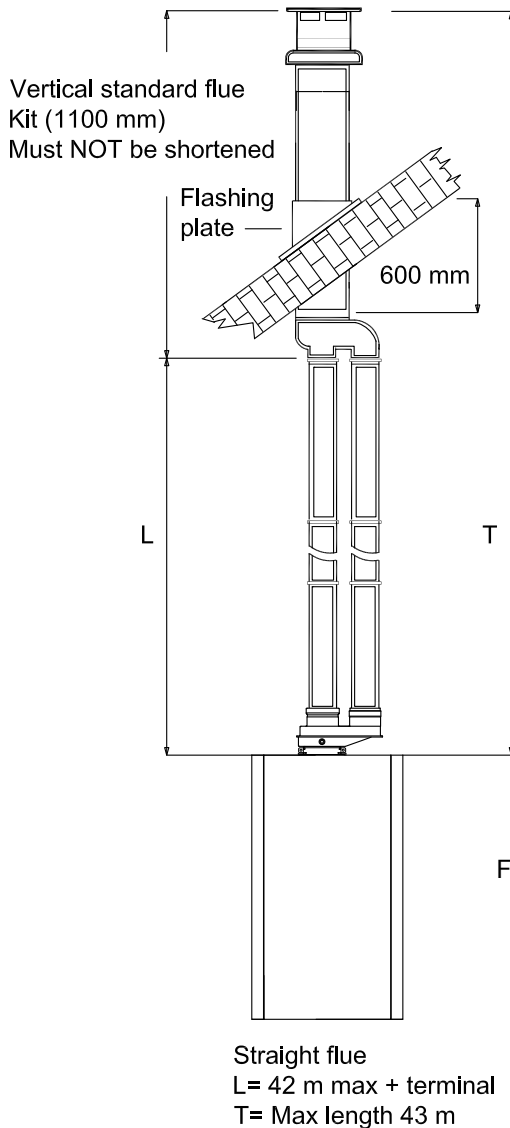

Fig. 24
Typical installation procedures are illustrated by the drawing (fig.24).
5.16 Exhaust/suction system with concentric pipes for flat or sloping roofs. Extensions with two separate pipes (fig. 24).